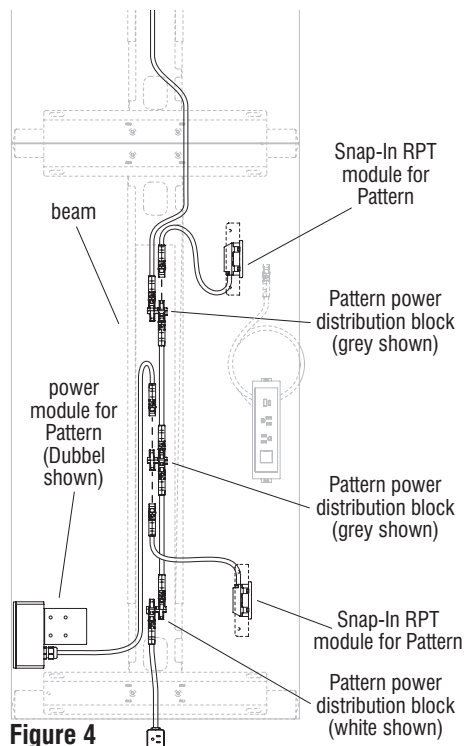

Figure 4
1. Route the connector ends of the Snap-In modules to an available power distribution block on the Pattern electrical system inside the beams (Figure 4 & Details C & D).